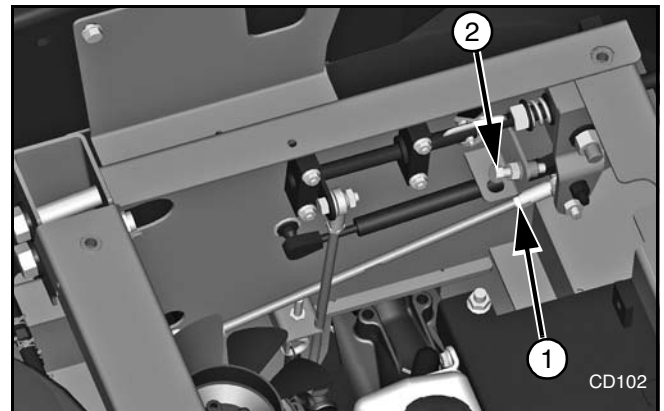

Figure 9. Jam Nut on Linkage Rod
3. Loosen jam nut (1) on linkage rod as shown in Figure 9.